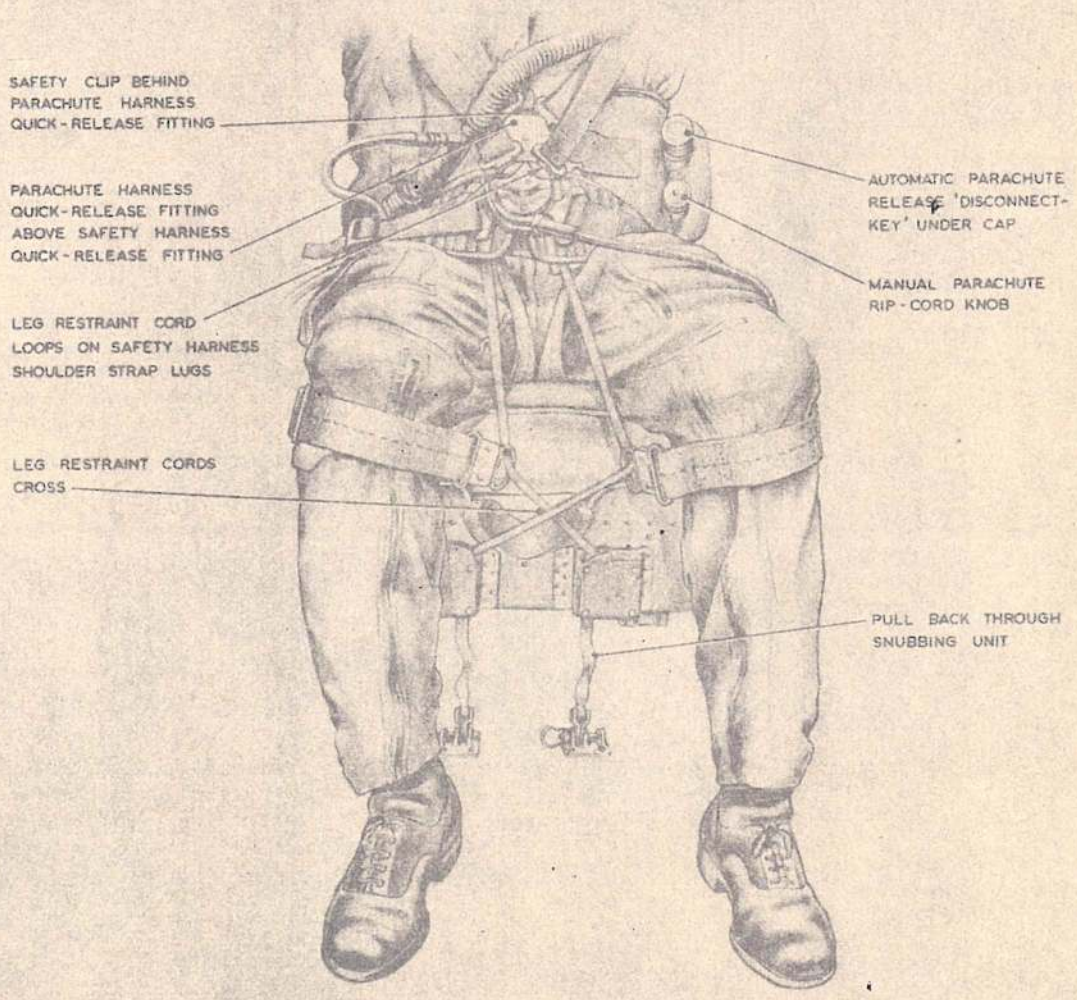

FIG.3. ASSEMBLY OF LEG RESTRAINT CORDS AND HARNESS
21. Strapping in procedure is as follows: refer to fig.3, 4 and 5 for detail as necessary:-